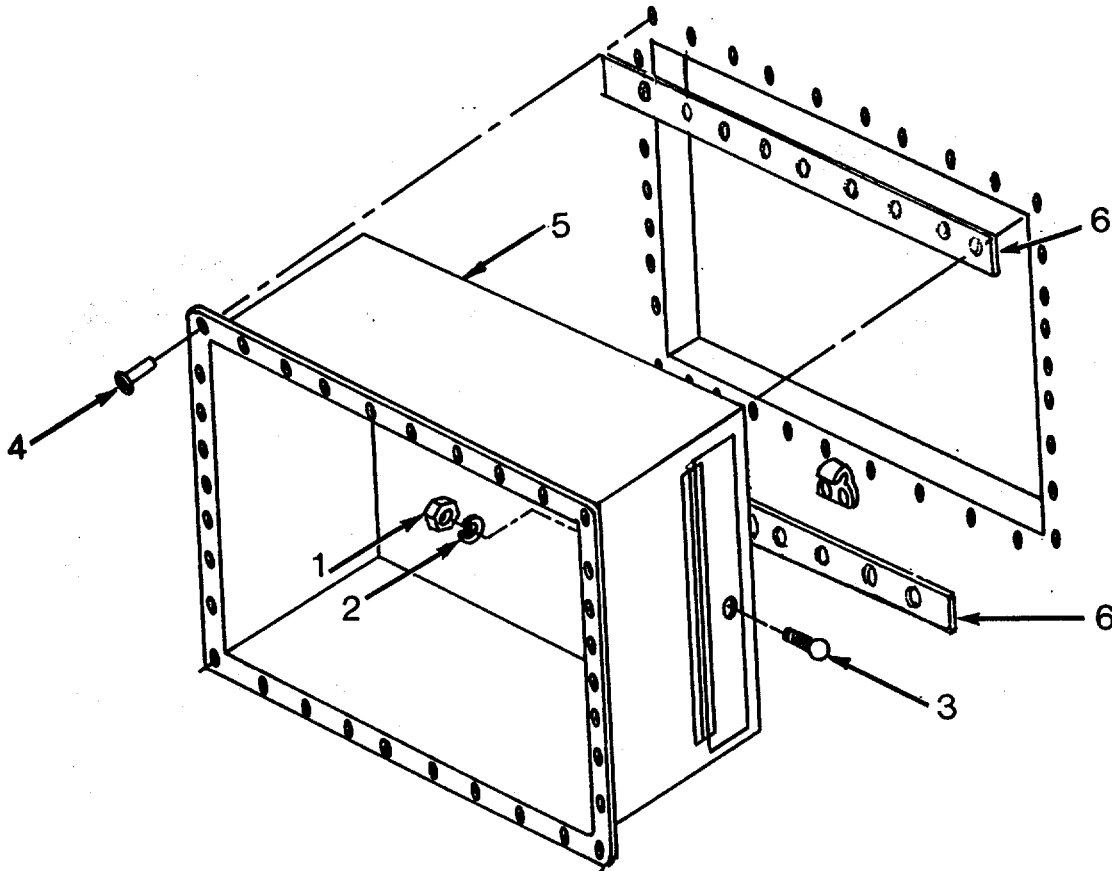

Figure 4-48. Drop-Off Box Assembly (Interior)
- (e) Remove exterior door latch (5) and spacer block (6).
- (f) Remove and install replacement gasket (7) if necessary.
- (g) Install replacement exterior door latch (5), spacer blocks (6), and secure with rivets (4).
- (h) Position spacer block (3) and replacement exterior door (2). Secure with rivets (1).
(2) Drop-off Box. (See Figure 4-48.)
- (b) Remove nut (1), washer (2), and knob (3).
- (c) Remove rivets (4) by drilling or chiseling off heads.
- (e) Remove drop-off box (5) and spacer block (6) by pushing through wall opening from interior of shelter.
- (g) Position spacer blocks (6), replacement drop-off box (5) and secure with rivets (4).
- (h) Secure knob (3) with washer (2) and nut (1).
- (i) Install exterior door. (See paragraph (1) above.)